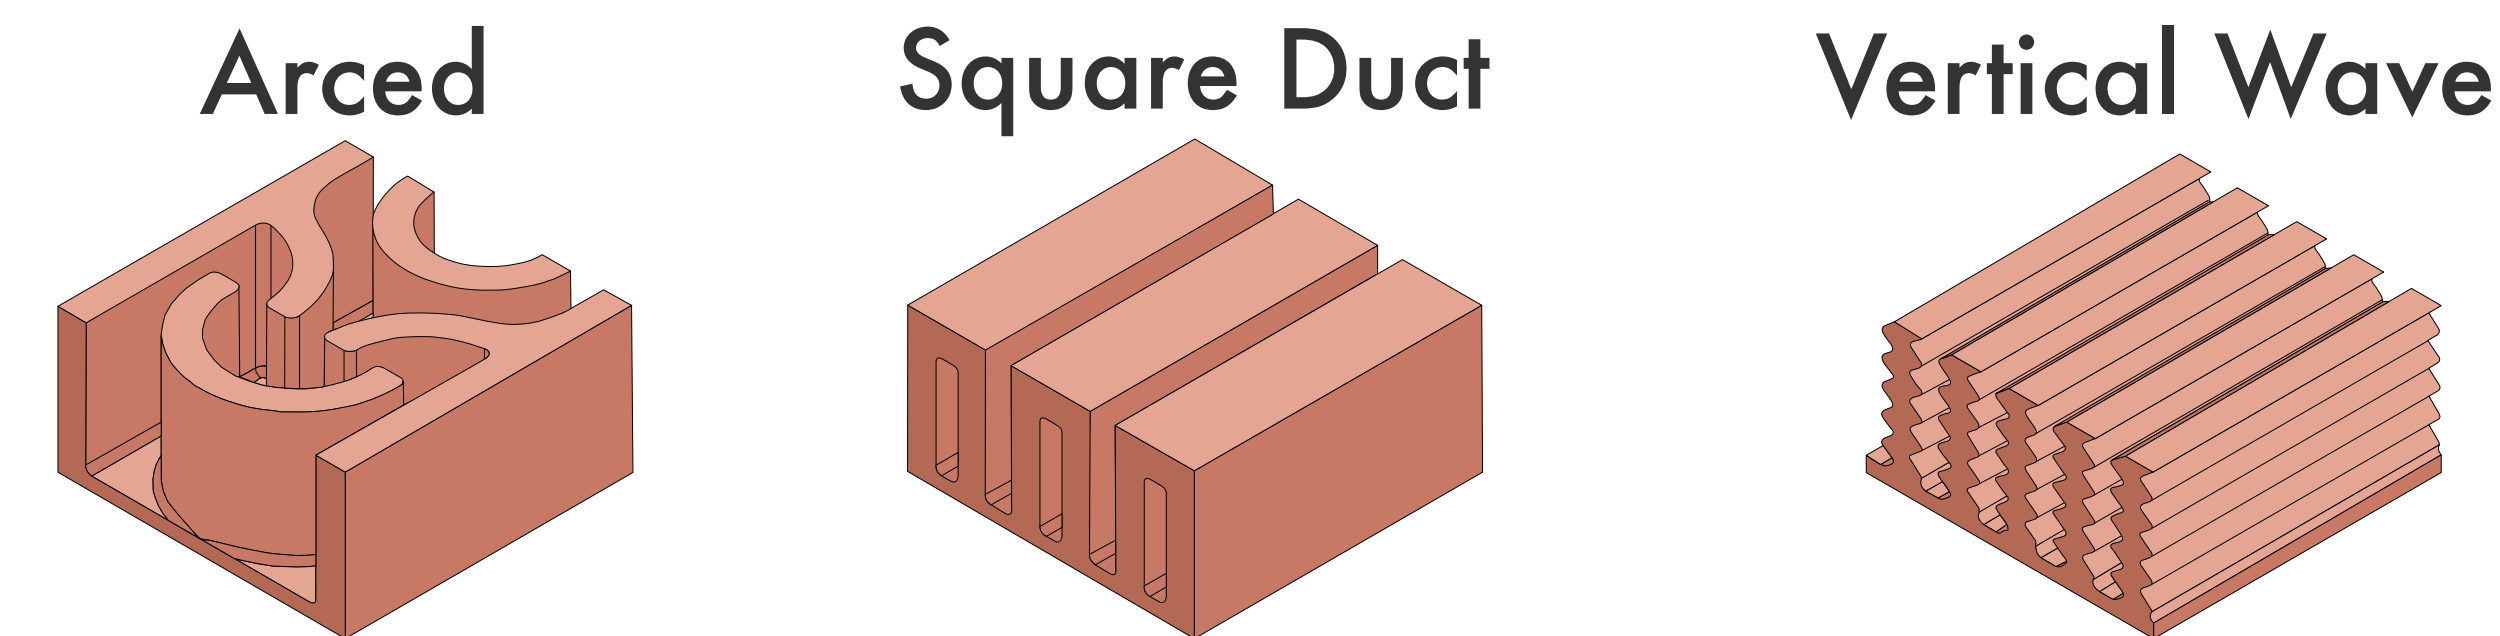

Figure 4. 3D-Printed Surfaces with Three Distinct Geometries.
- Three 3D-printed surfaces (Fig. 4) were fabricated on the Markforged Metal X & post-processed (Fig. 5).